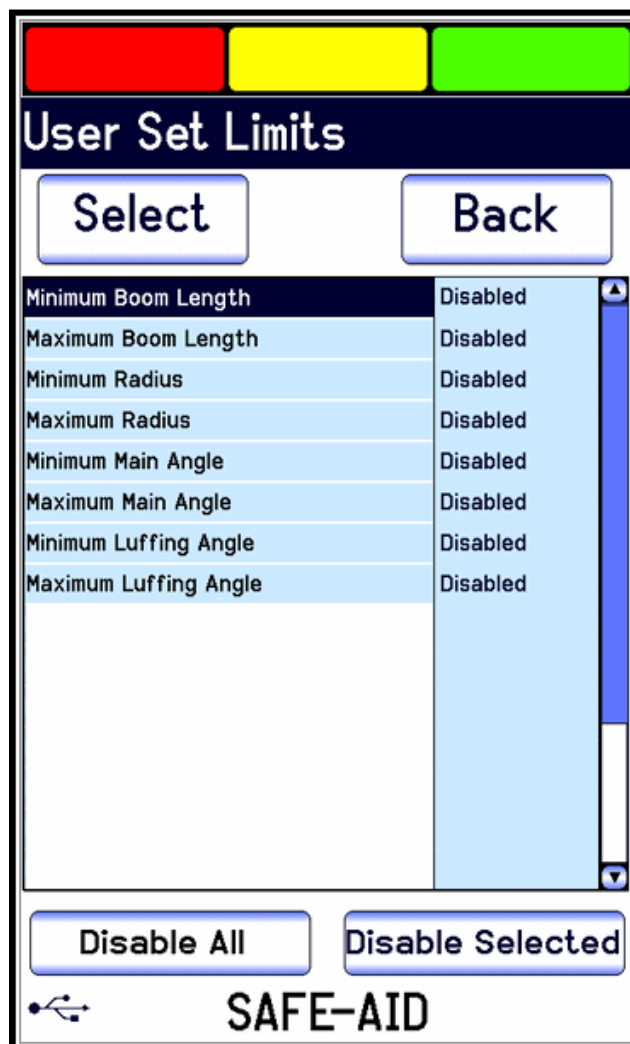

Figure 16
## WORKING OPERATIONS – FIGURE 16 & 17
7. **User Limit Setup** – Press the screen in the bottom left hand corner to access the User Limit Setup screen (Figure 16). Highlight the required limit to be set by pressing on the description, press the Select button to access the keypad and type in the limit that is required. Once all the limits have been set press the Back button to return to the working screen. To disable the limit highlight the limit by pressing on the description and press the **Disable Limit** button this will then put Disabled next to the description and the limit will now be disabled. To disable all limits press the **Disable All** button.